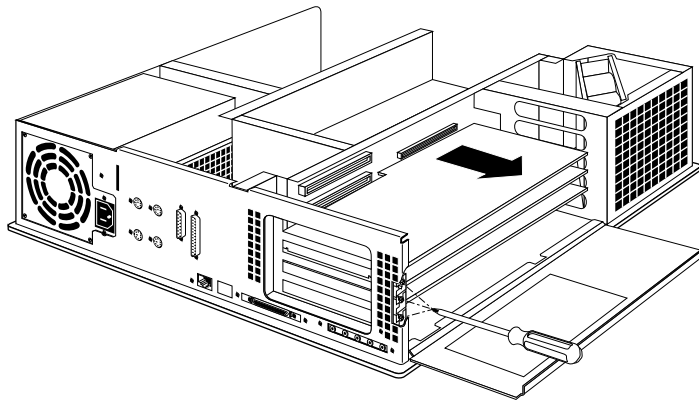

Figure 5-54 Removing the Screws Holding the Board Set
3. Remove the screws attaching the board set to the workstation slots, as shown in Figure 5-54.